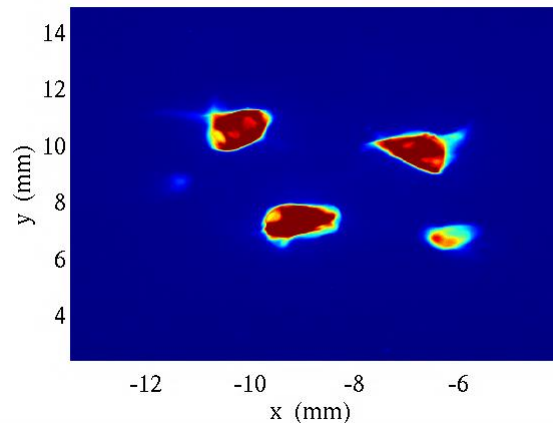

Figure 1
5. Increase the solenoid strength slightly so that the beam starts to flower outward and multiple “petals” are visible, as in Figure 1.
7. Begin making moves to M2 in the axis which seems most misaligned based on the current PR10241 position. For the example in Figure 1 it appears that the center of the beam and 4 petals are visible, suggesting 2 other petals are on the lower left. You’d try to steer so those petals are visible.